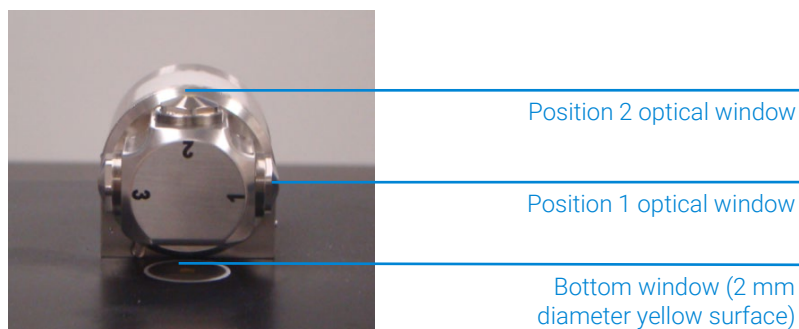

Figure 13. DialPath with optical window facing up.
In the sample loading and cleaning mode, the DialPath is rotated so the optical window is facing up (see Figure 13). In this position, the sample mounting area can be easily accessed for loading the sample into place and for cleaning the sampling surfaces before the next sample is analyzed.
- 1** Rotate the DialPath so that optical window Position 2 is pointing upward (see Figure 13).